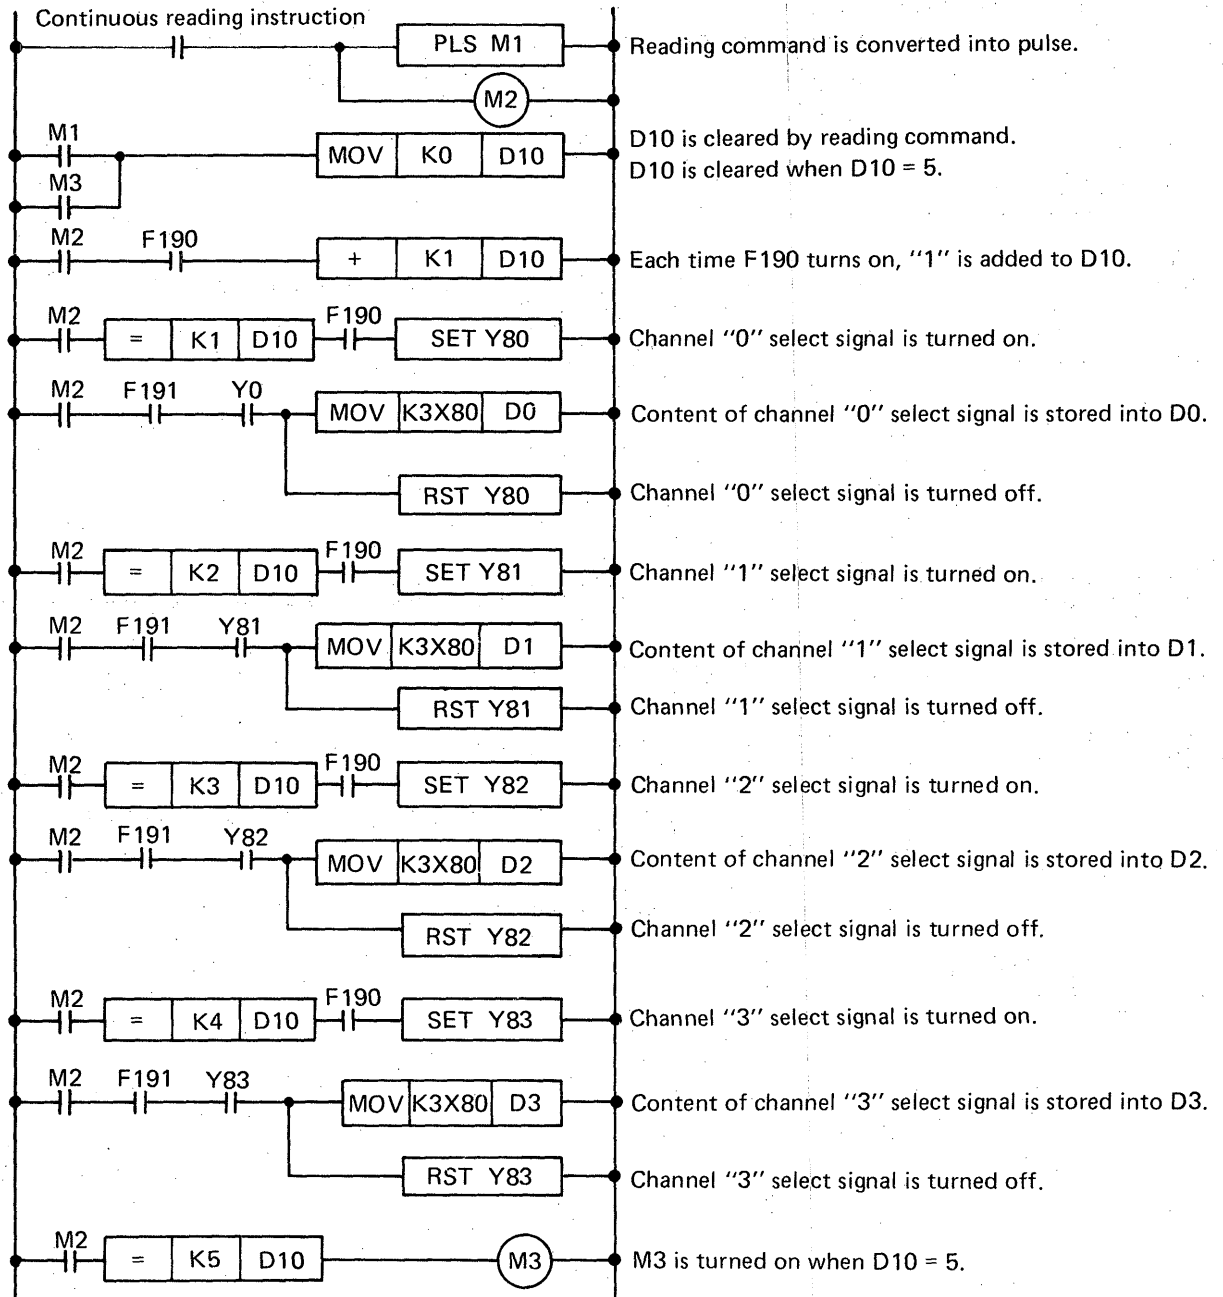

Fig. 4.15 Program Example for Continuous Reading of Channels "0" to "3" of A/D Converter Unit
(3) The program for consecutively reading data in 4 channels, channels "0" to "3", of KA62A and for storing the data into the data registers, D0 to D3, is as shown in Fig. 4.15.